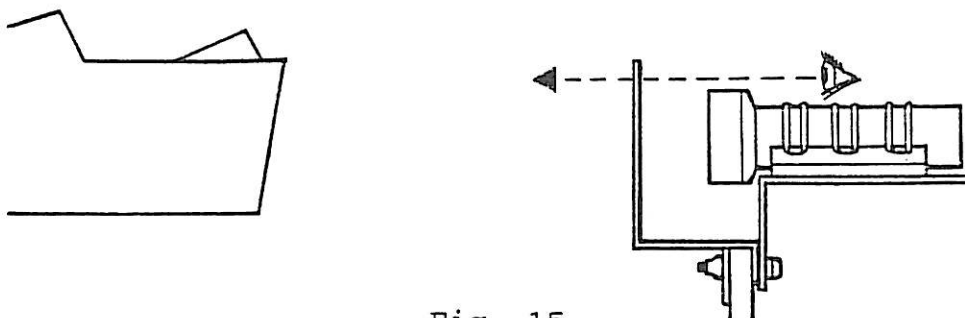

Fig. 15
5. Move to the rear of the checking unit and taking care not to move the stand, look at the Headlamp Aligner through the top vertical slit (see Fig. 15).